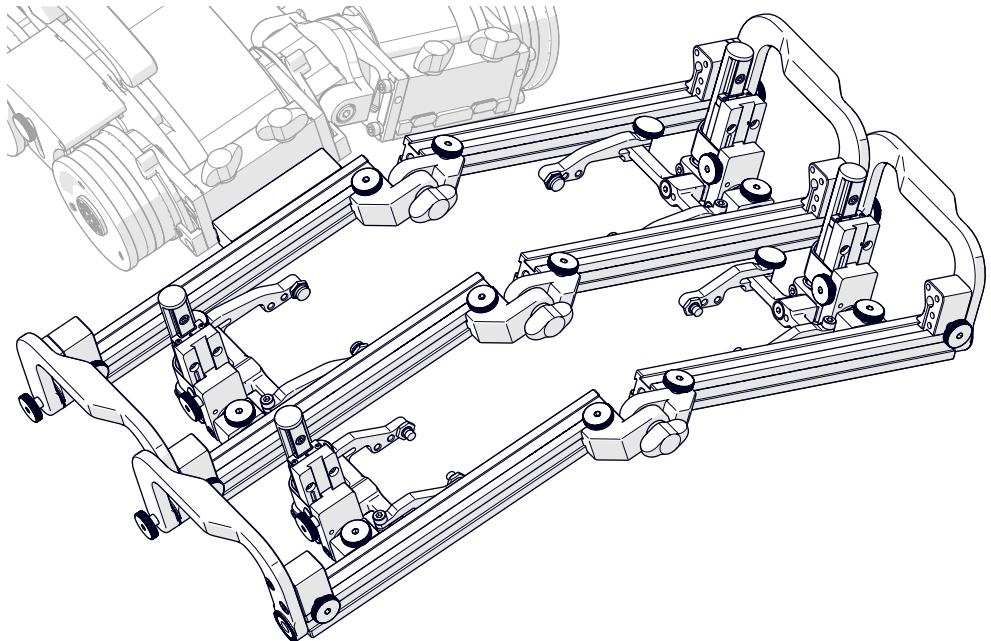

*Fig. 230 - Align probes with the scan surface tangent*
6. Loosen the front rotational adjustment knob (Fig. 229) to align the TOFD probe holders parallel with the scan surface (Fig. 230).